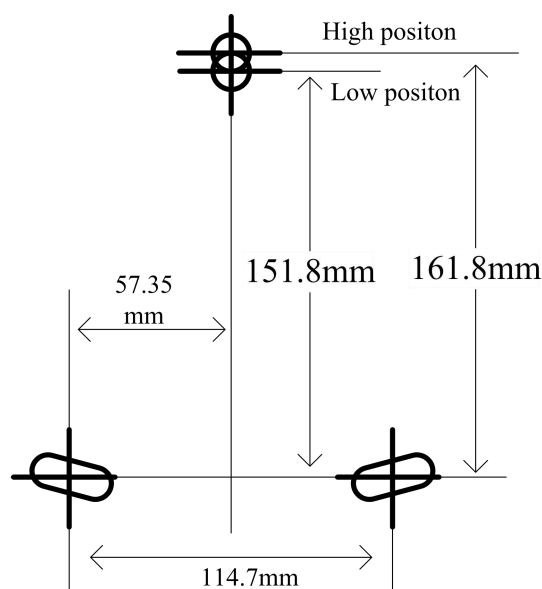

Figure 5.1.1 Drilling hole location
4. Remark the meter fixed location on the installation panel (the fixed three location refers to following figure 5.1.1)